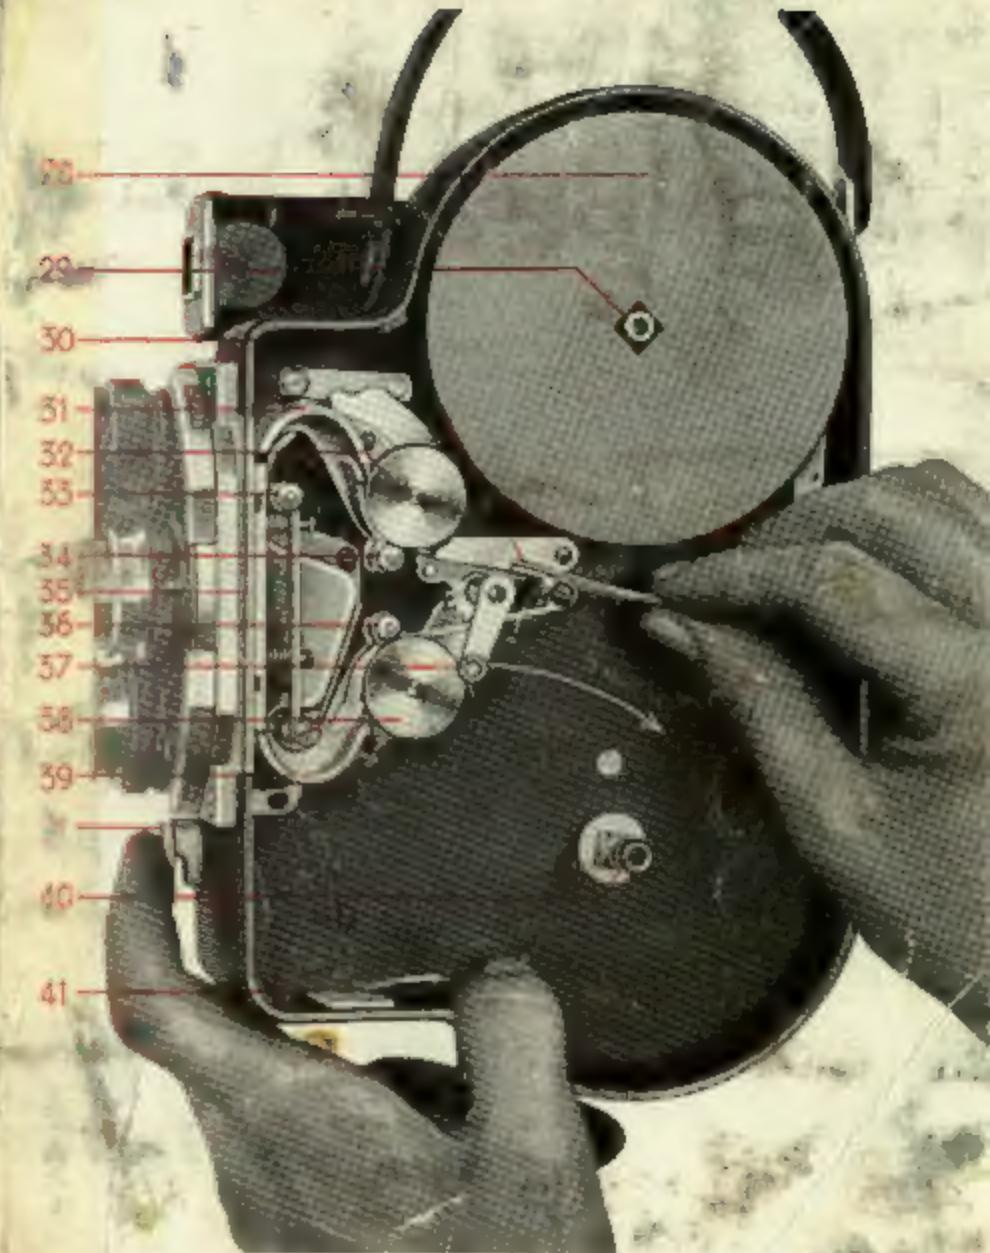

Fig. 7.
- Push down lever 37 into the position shown in Fig. 7, so as to close the loop guides.